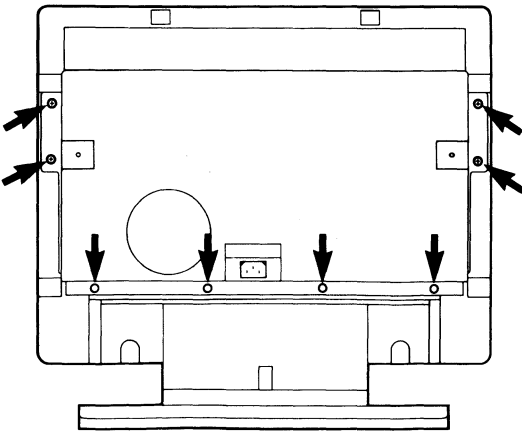

Figure 5-45. Safety Cover Lockscrews
14. Remove the screws that fasten the metal cage to the covers as shown in Figure 5-45.